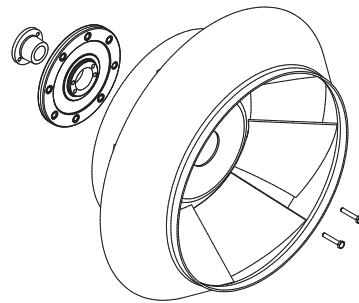

Figure 5
2. Loosen and remove the socket head cap screws which fasten the bushing to the hub as shown in Figure 5.